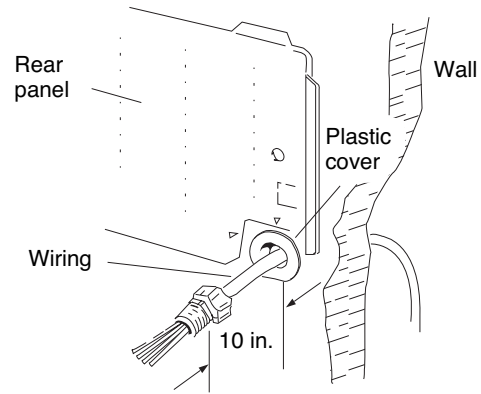

Fig. 3-57
- (1) Insert the inter-unit wiring (according to local electrical codes) into the through-the-wall PVC pipe. Run the wiring toward the indoor side allowing approx. 10 inches to extend from the wall face. (Fig. 3-57)